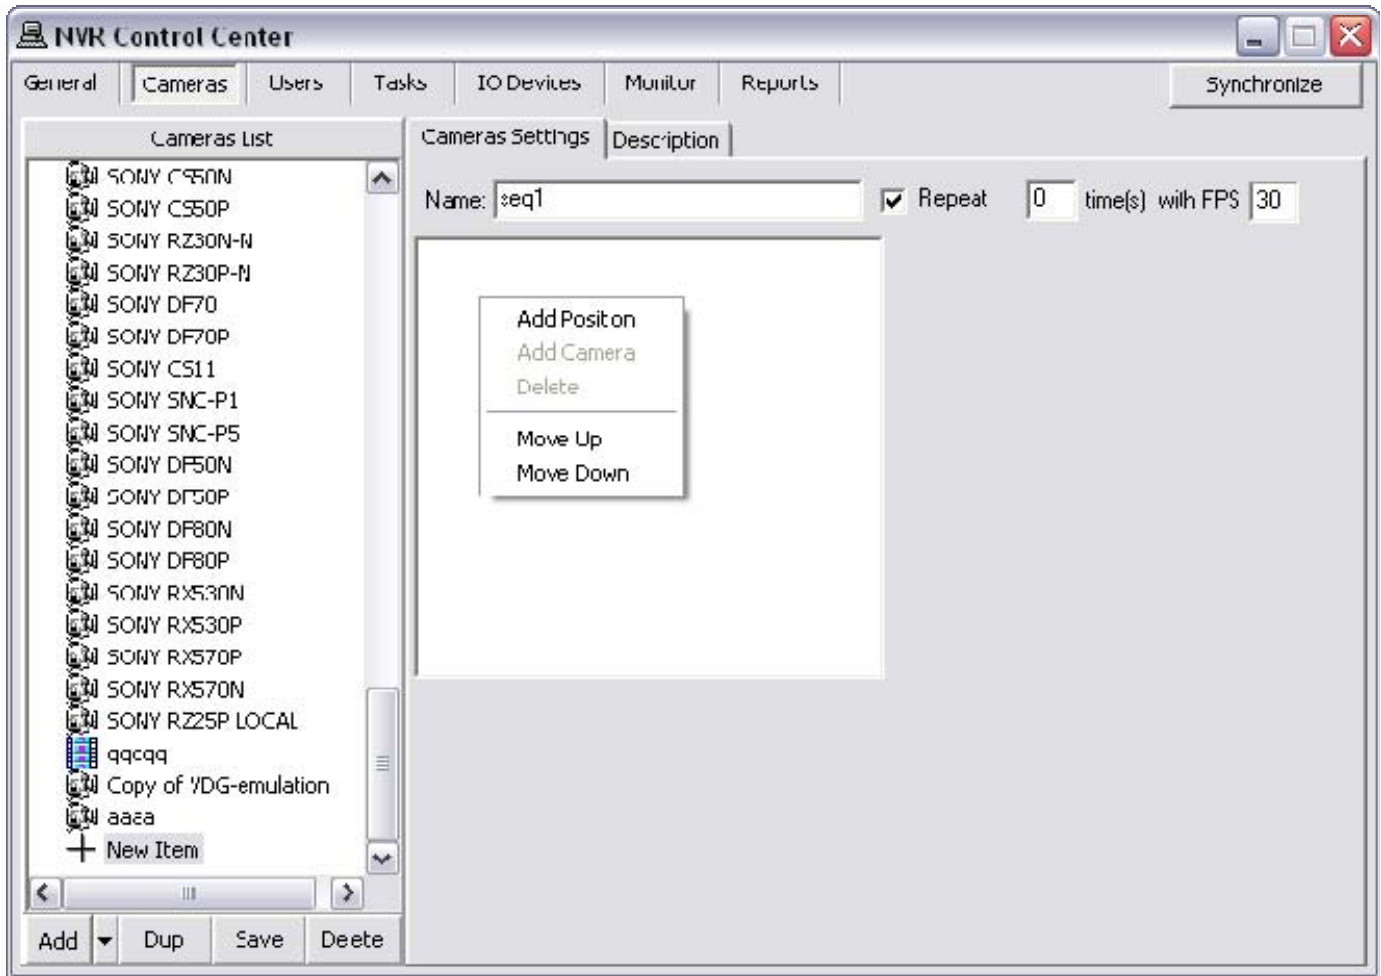

Fig 40. NVR Control Center — Cameras — Cameras Settings
1. In the **Cameras Settings** enter the sequence **Name** (Fig 40).